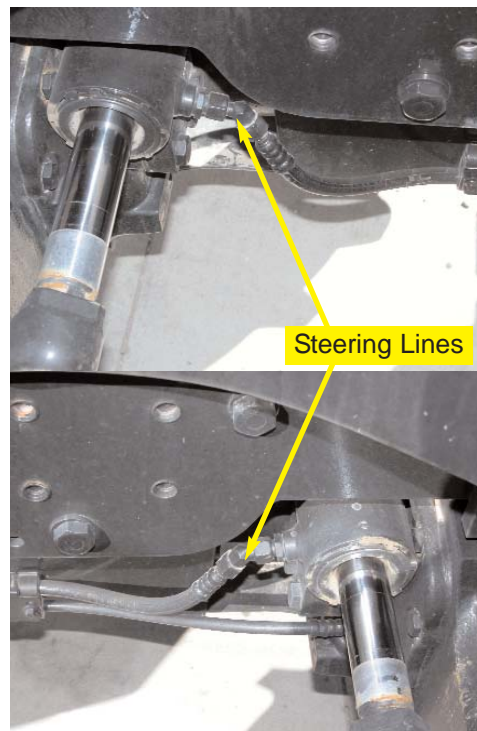

Figure 5a. Location of steering lines.
- a. Locate the steering lines at the steering cylinder on the front axle. (Figure 5a.)